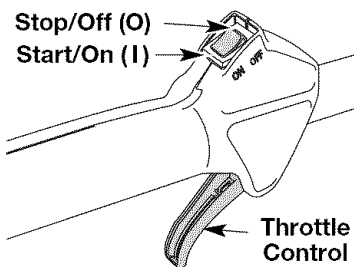

Fig. 4
2. Press and hold On/Off Stop Control in the **OFF (O)** position until engine comes to a complete stop (Fig. 4)